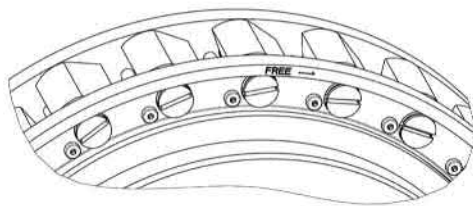

Figure 5: Clamp bodies "neutral position"
- Lift the inner race (2) including the cage (8) out of the outer race (1). Use appropriate lifting gear at the threaded hole of the inner race for this
- Place the inner race (2) including the cage (8) facing downwards the label "FREE" on an assembly table
- Secure (see Fig. 5 and 6) the clamp bodies in lift-off position (against the spring force) using an O-ring / cable connector as an assembly aid
- Insert the inner race (2) with cage (8) into the outer race (1) until half of the clamp body is covered